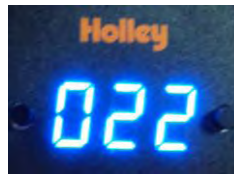

Figure 4
- SETTING 1** - This is your first setting that you will need to program. This setting decides what parameter you want the gauge to display. For example, if you want to set up a Fuel Pressure Gauge, the first setting will be 022 (**Figure 4**). The choices are shown in **Table 1** (on the next page):